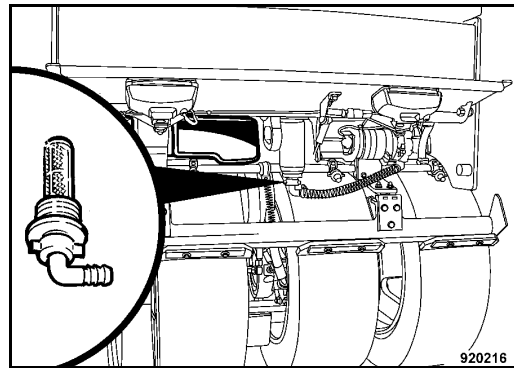

Fig. 182
- Loosen the fitting, take the emulsion filter (Fig. 182) out and clean it.